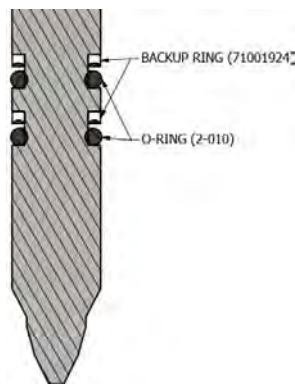

Figure 4 – Stem O-Ring Installation
- 6.9 Place the backup rings onto the stem so the contour faces the O-ring. Install per Figure 4.
- 7.6 Install the stem backup rings and O-rings per Figure 4.